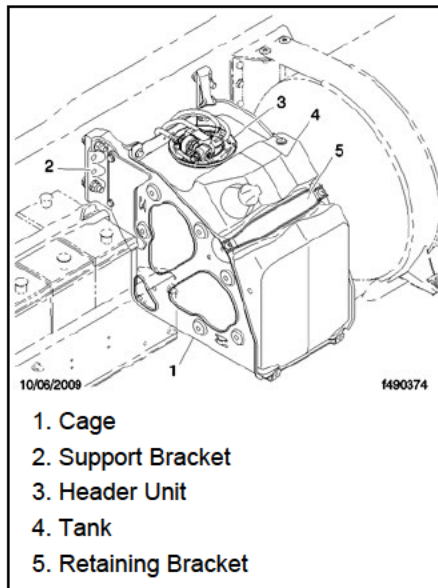

Fig. 4, 13- or 23-Gallon DEF Tank Mounting Assembly
12. Remove the tank retaining bracket. See Fig. 4.